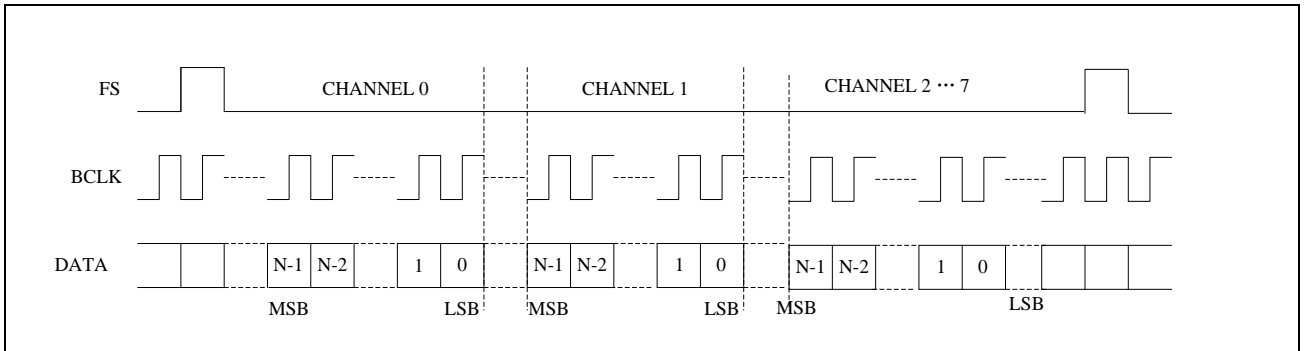

Figure 15 PCM Time Slot Audio Data
Normally, the DAC data is clocked immediately after the Frame Sync (FS); however, in PCM Time Slot Mode, the audio data can be delayed. These delays can be seen before the MSB in Figure 15.